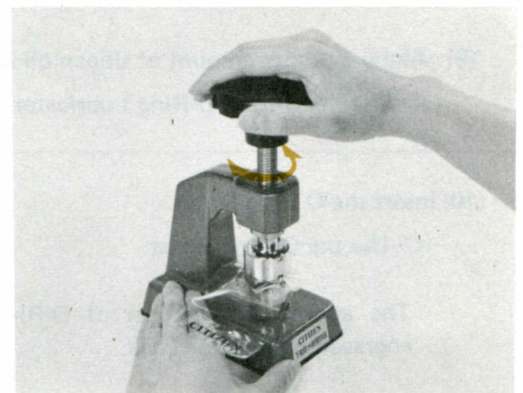

Fig. 9
(11) Push in the bezel.
- Use the Citizen Multi-Purpose Watchcase Opener (Fig. 9).